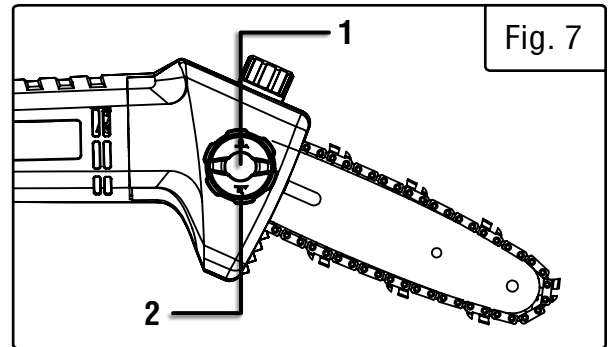

Fig. 7
2. Fully loosen chain tensioning wheel (outer wheel) by turning it counterclockwise (Fig. 7 - 1). Make sure to turn it all the way; this will allow the chain cover to be properly placed back later.
3. Fully loosen cover lock knob (inner knob) by turning it counterclockwise (Fig. 7 - 2). Remove cover lock and chain cover.